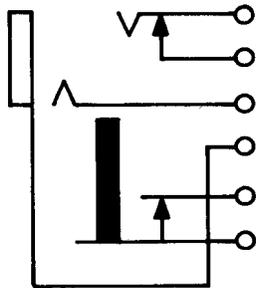

Fig. 17—347 Jack
**2.17 347:** (A & M only.) This apparatus should be ordered only for additions or maintenance of existing equipment arranged for this type of apparatus. This strip-mounted jack (Fig. 17) is used with the 310 plug. This jack is furnished only on orders for jack mountings. The 347 jack mounts in the 109, 110, 116, 131, 136 and 137 jack mountings. This jack is used in the 109A multiple magnetic switchboard and equipped with heavy contacts on the tip spring combination.